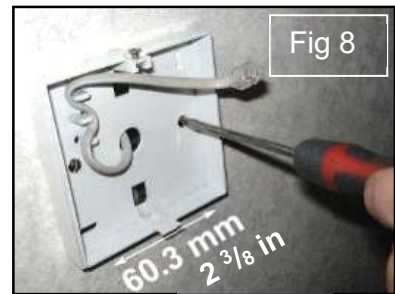

Fig 8
Step 2 Feed one end of the RJ control cable through the switch box, feed and secure the RJ control cable through the back case and secure back case to switch box using 2 mounting screws (field supplied) (see Fig 8).